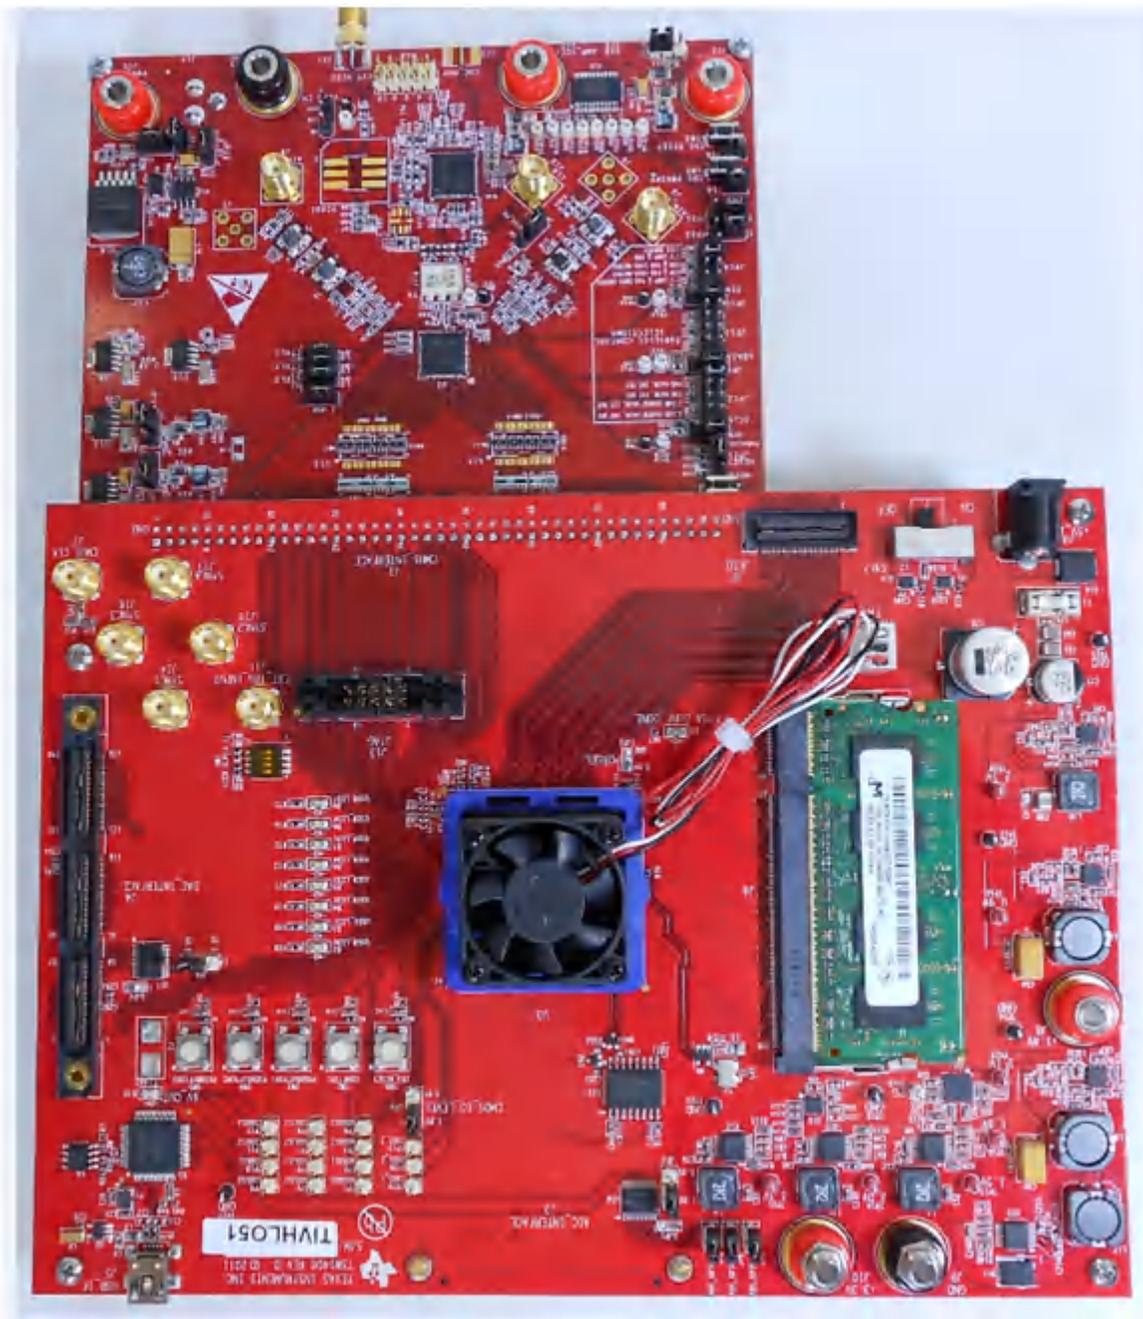

Figure 4-4. TSW1400EVM interfacing to the CMOS connectors of an ADS62P49EVM
- The TSW1400 EVM connected to the CMOS connectors of the ADS62P49 EVM is shown in Figure 4-4.